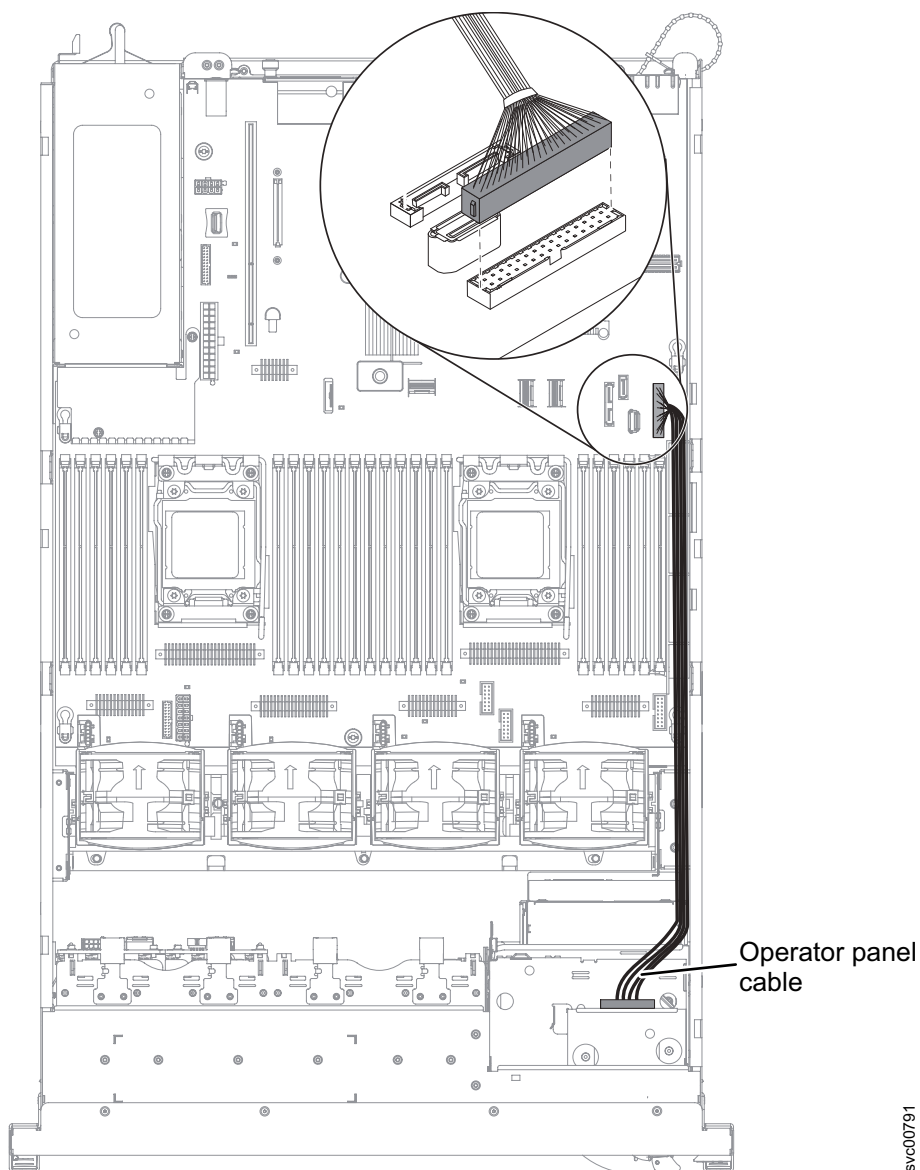

Figure 265. Removing the 2145-DH8 operator-information panel cable
3. Remove the cable from the connector on the right side of the node, as shown in Figure 265 on page 318.